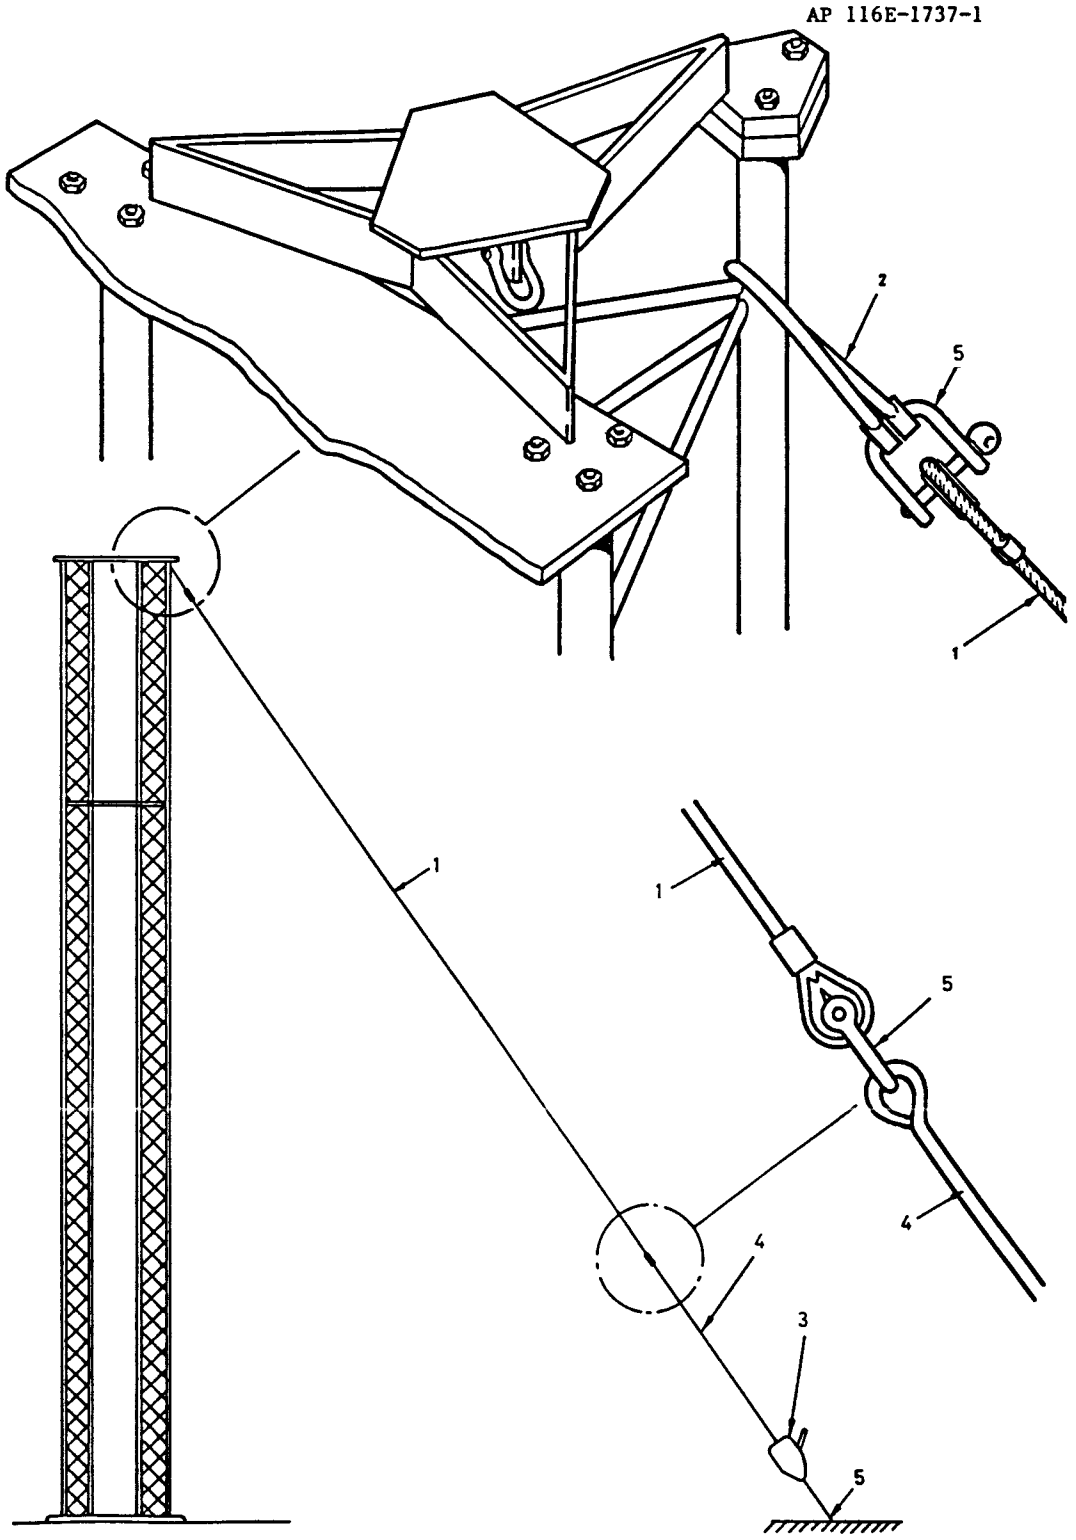

Fig. 3 Temporary stay attachment
8.12 Refer to Fig.3 and Table 3. Attach the wire rope assembly (item 2) one to each mast leg as shown. To each of these attach a rope assembly (item 1) using a shackle (item 5). Shackle a Tirfor winch (item 3) to each block 'F' at each side of the mast base using a shackle (item 5). Attach a Tirfor rope (item 4) to rope assembly (item 1) using a shackle (item 5). Feed the ropes (item 4) through the winches (item 3) and take up the slack.
TABLE 3 ITEMS LIST FOR FIG.3
| 3 | Items list for fig.3 | 24 |